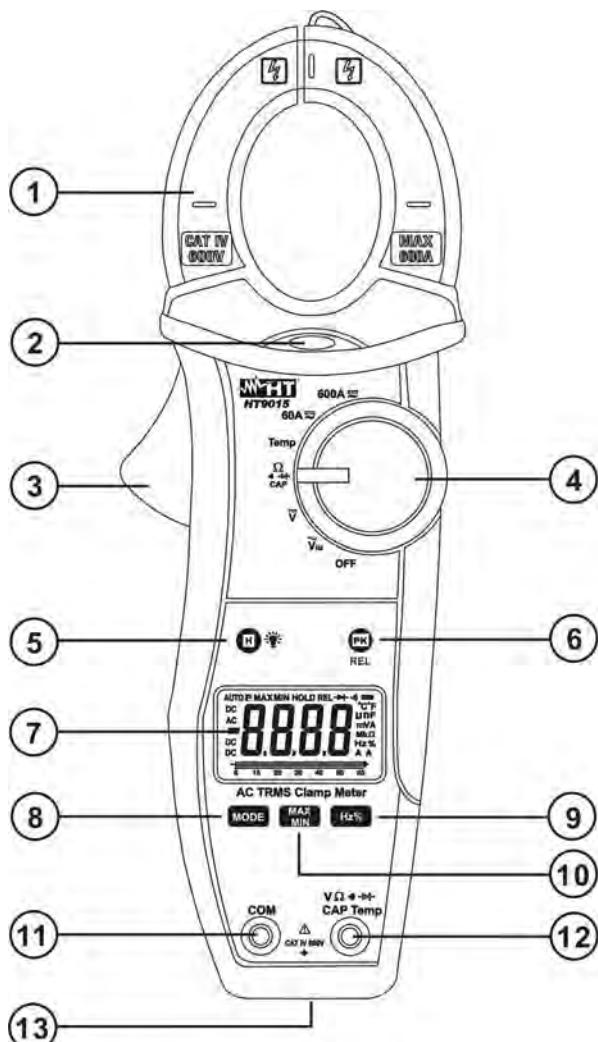

Fig. 1: Instrument description
1. Approach the meter closest to AC source and note the turn on of red LED which is placed to the bottom of clamp jaws (see Fig. 1 – part 2) which detect the AC voltage